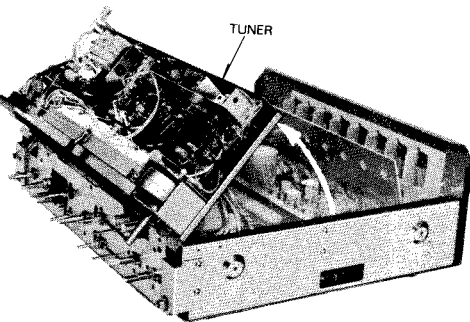

Fig. 1
8. Then tuner can be moved in front of chassis as figure 1, and remove tuner from chassis.